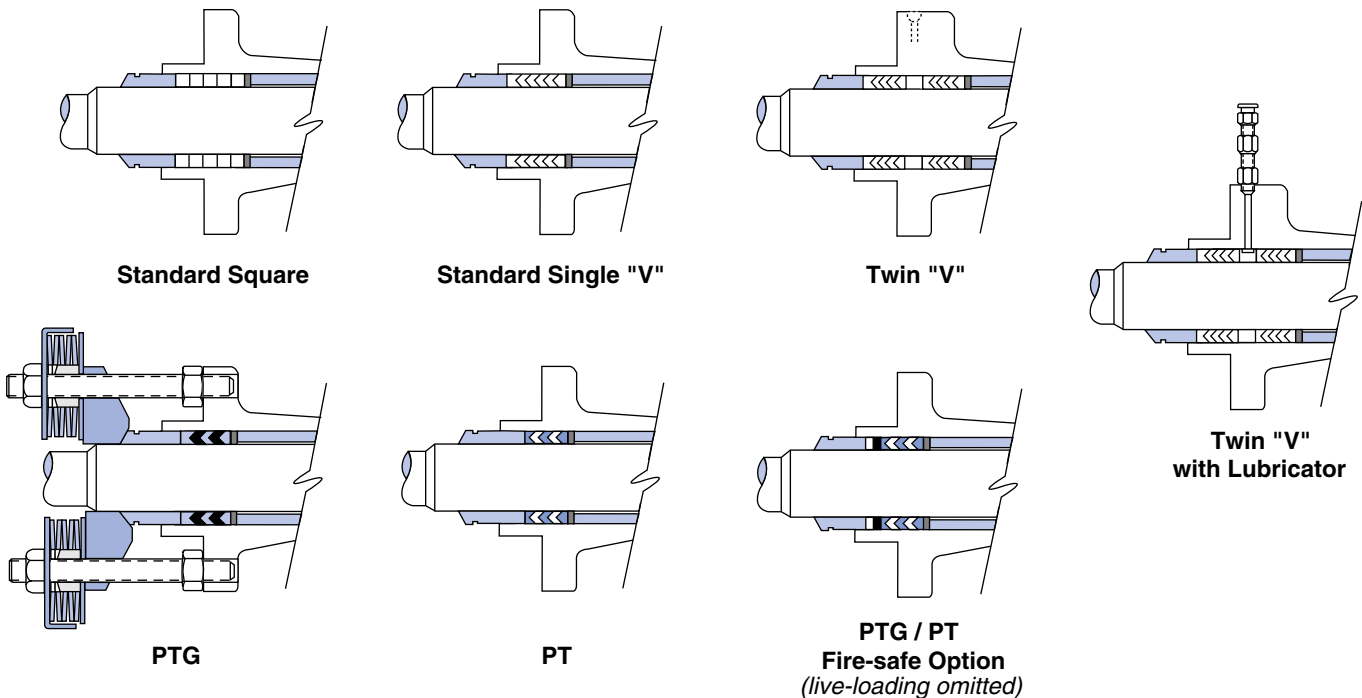

Figure 3: Typical Packing Configuration
- Install new packing per Figure 3.